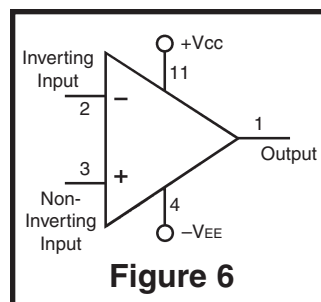
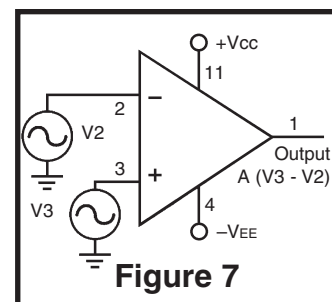

Figure 6
Figure 7
The op-amp has two input terminals, inverting input (-) and non-inverting input (+), and one output terminal. Figure 6 shows the standard op-amp symbol. The two input terminals are labeled 2 and 3, and the output is 1. Most op-amps operate with two DC power supplies, +VCC and -VEE connect to pins 11 and 4 respectively. Since a single power supply is used in the kit, -VEE (pin 4) is tied to ground. The op-amp multiplies the difference between the voltage signals applied at its two input terminals (V3-V2) times the gain of the amplifier (A). A x (V3-V2) appears at the output terminal as shown in Figure 7.